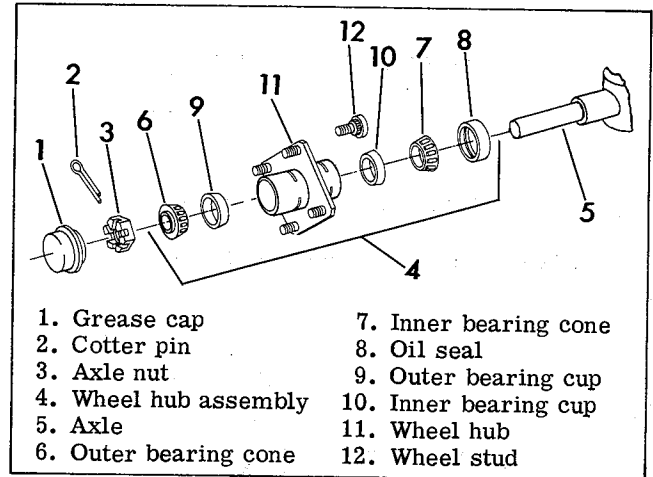

Figure 2-20. Front Wheel Hub - Exploded View
REMOVING AND INSTALLING FRONT WHEELS AND HUBS (Figure 2-20)
To remove wheel hubs, Figure 2-20, remove grease cap (1), cotter pin (2) and castle nut (3). Remove hub assembly (4) from axle (5).
Clean both tire beads to remove any dirt or foreign matter. Clean wheel rim well, where tire beads seat, with a wire brush. This cleaning is very important as tubeless tires require a perfect seat between the wheel rim and tire beads to prevent loss of air. Install tire on rim using a rubber mallet or tire iron in manner opposite to removal. Apply liberal amount of tire mounting solution to the rim flange and tire beads. Remove valve core and position tire so the tire bead is seated on the rim flange narrow bead seat. Place tire upright against wall. Apply high pressure through valve stem while pushing against tire on side opposite wall and floor. This 3 point contact pressure will tend to bring beads out in contact with rim so that internal pressure is formed and beads snap into place. See Figure 2-20. 30 to 35 pounds air pressure should be used to seat tire beads on rim. Quickly remove air pressure and install valve core. Correct to specified pressure and immerse in water to recheck for air leaks.